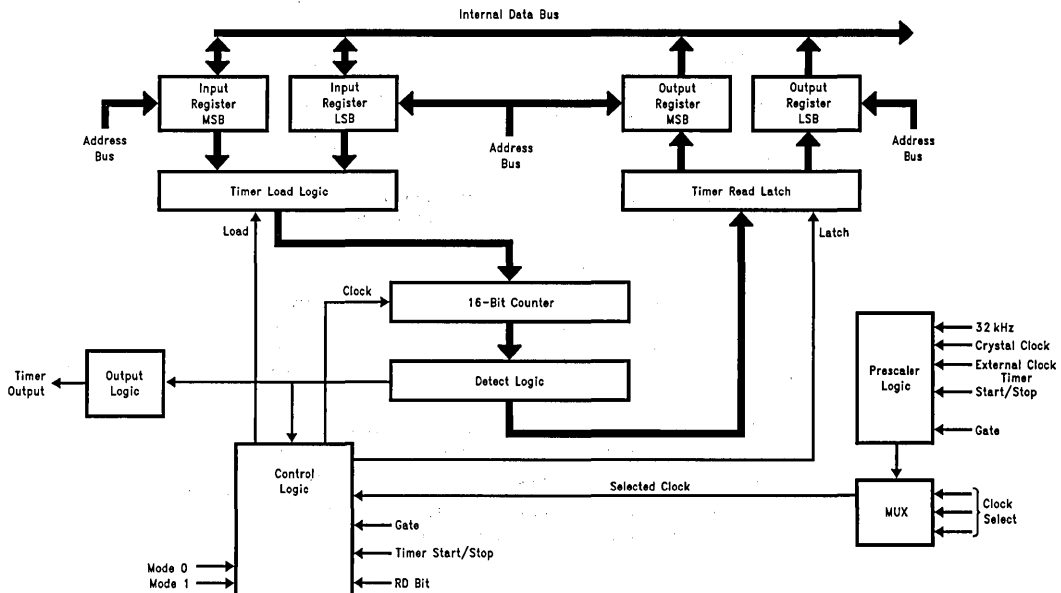

FIGURE 7. LV8570A Timer Block Diagram
Figure 7 shows the functional block diagram of one of the timers. The timer consists of a 16-bit counter, two 8-bit input registers, two 8-bit output registers, clock prescaler, mode control logic, and output control logic. The timer and the data registers are organized as two bytes for each timer. Under normal operations a read/write to the timer locations will read or write to the data input register. The timer contents can be read by setting the counter Read bit (RD) in the timer control register.